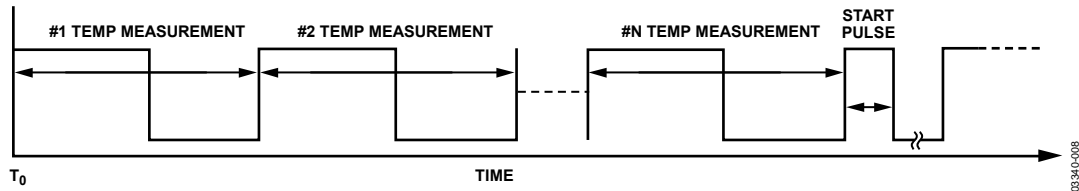

Figure 27. Daisy-Chain Signal at Input to the Microcontroller
Before the start pulse reaches a TMP05/TMP06 part in the daisy chain, the device acts as a buffer for the previous temperature measurement signals. Each part monitors the PWM signal for the start pulse from the previous part. Once the part detects the start pulse, it initiates a conversion and inserts the result at the end of the daisy-chain PWM signal. It then inserts a start pulse for the next part in the link. The final signal input to the microcontroller should look like Figure 27. The input signal on Pin 2 (IN) of the first daisy-chain device must remain low until the last device has output its start pulse.